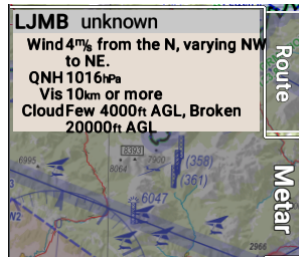

Figure 4.5: Example of METAR information along the route.
- A touch on the **Metar** tab collects current METAR information from airfields close to the route path and displays this in a list form. Either an Internet access or an active FIS-B link connection is required for this command. Figure 4.5 shows an example.